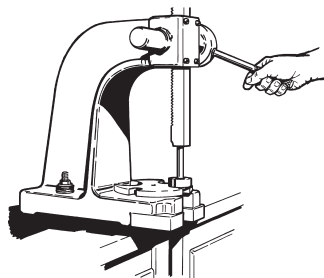

Figure 4-21
6. Using the arbor press remove the two (2) bearings from the shaft. Refer to Figure 4-21. If the inner race is well supported during this operation, no damage will be done to the bearings.